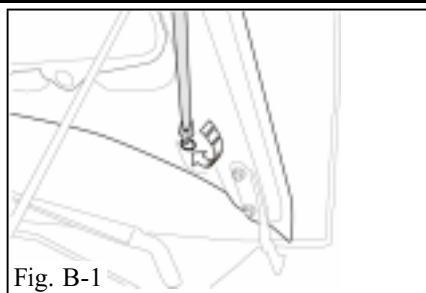

Fig. B-1
2. Attach one (1) elastic with "S" hook to the hole at the bottom of the hood (Fig. B-1.) Repeat on other side of vehicle.